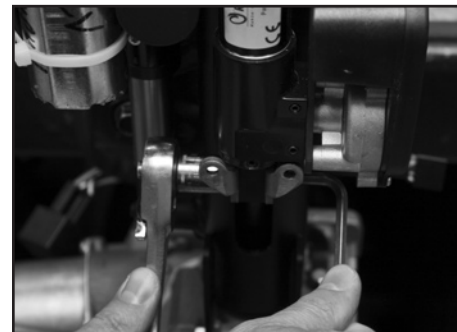

Figure 2
3. Using a 5mm Allen and a 13mm socket remove bottom shoulder bolt and nut (P/N 023046) **Figure 2**